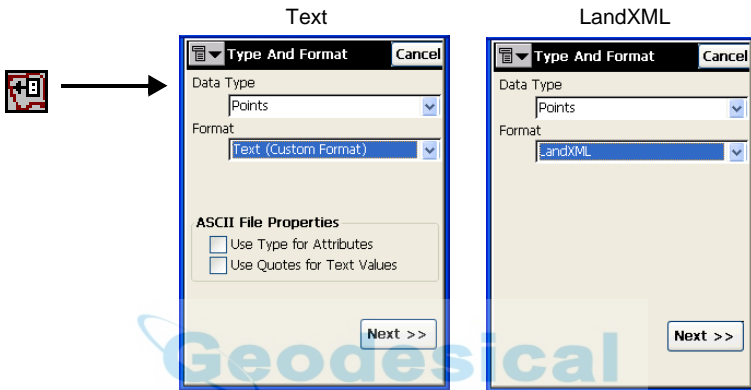

Figure 2-19. Select Data Type and Format.
1. Press the **Import Waypoints** button to display the *Type And Format* screen (Figure 2-19).
2. Select the type of file to import from. For Text files also select ASCII file properties (Figure 2-19). Press **Next**.